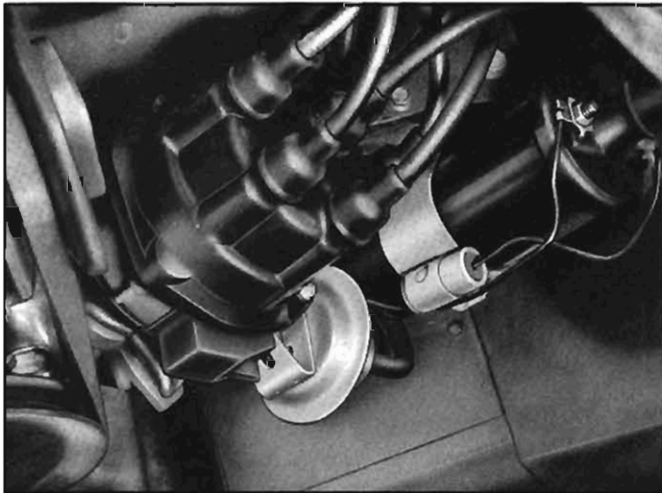

Fig. 8-6—Distributor Installed
4. Disconnect vacuum line from vacuum control assembly (retard unit on turbo-charged engines), remove distributor hold-down bolt and clamp, remove distributor from engine. Note position of vacuum advance assembly relative to engine for correct reinstallation (fig. 8-6).